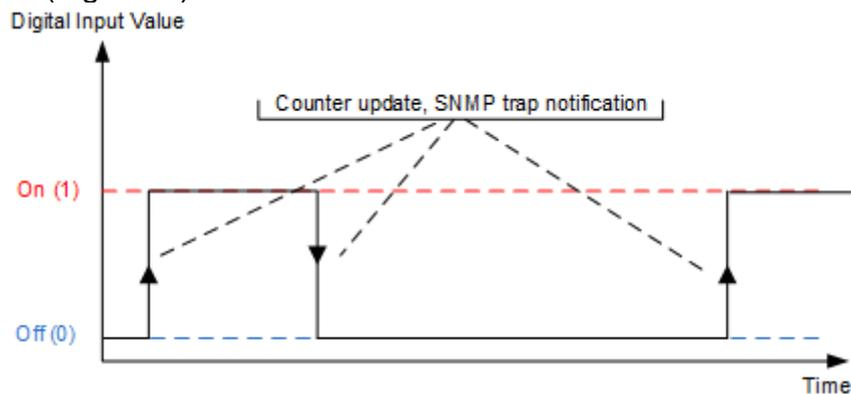
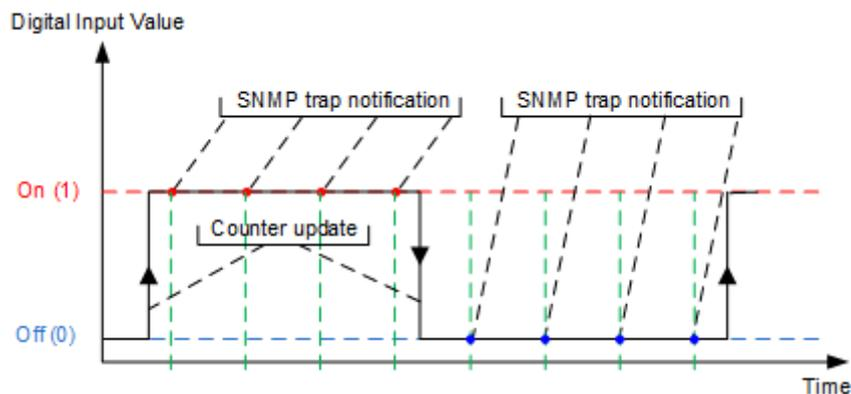

Figure 7.17. SNMP Trap Value="2 (Both)", Trap Sending="Edge Triggered"
Figure 7.18. SNMP Trap Value="2 (Both)", Trap Sending="Level Triggered"
- 2 (Both) – **Counter** update takes place on each Digital Input state change (both falling and rising edges). With **SNMP Trap** enabled and **Trap Sending="Edge Triggered"** both edges trigger a trap message (Fig. 7.17). With **SNMP Trap** enabled and **Trap Sending="Level Triggered"** the trap message is sent in intervals of 5 seconds regardless of the Digital Input state (Fig. 7.18).